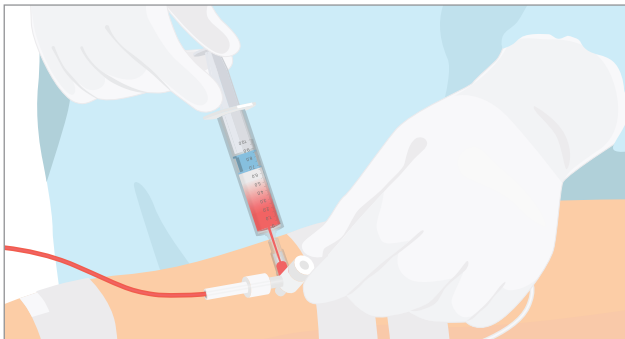

Figure 1.
2. In order to obtain a representative blood sample, you must remove all flush solution from the catheter/cannula system before sampling.¹ Interrupt the supply of flush solution according to institution protocol. Clean the stopcock with an alcohol swab. Fit the waste syringe to the stopcock Luer, open the stopcock, and aspirate all the flush solution and an amount of blood equivalent to 1–2x the volume of the catheter (**Figure 1**). Close the stopcock and remove and discard the waste syringe.